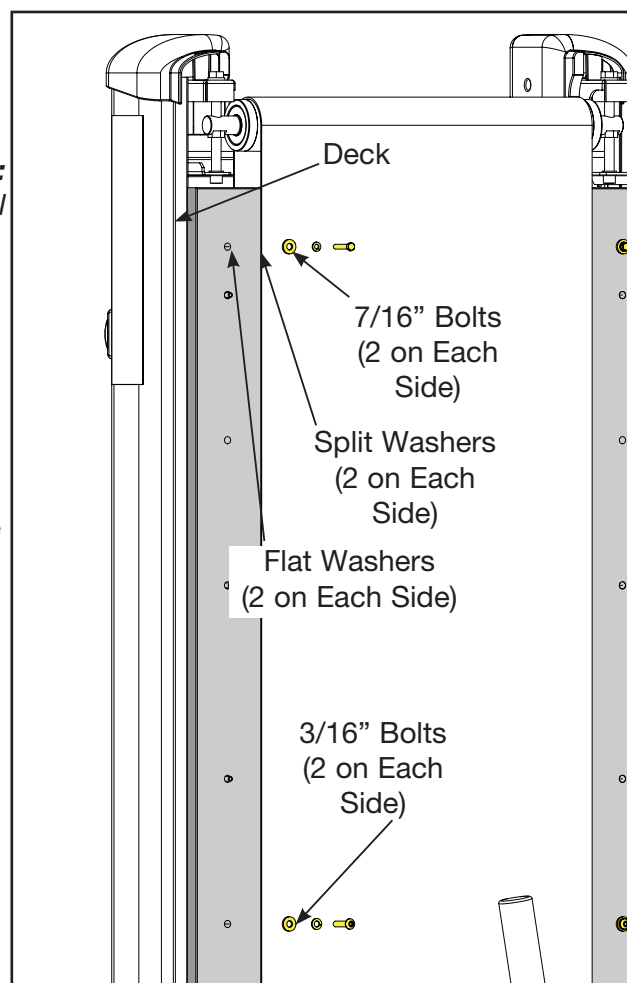

Figure 9
- A.** Using a 7/16" socket wrench, remove the two screws, two split washers and two flat washers that hold the back of the deck in place. See Figure 9.
- B.** Using a 3/16" allen wrench, remove the two screws, two split washers and two flat washers that hold the front of the deck in place. See Figure 9.
- B. Using a 7/16" socket wrench, install the two screws, two split washers and two flat washers that hold the back of the deck in place. See Figure 9.
- C. Using a 3/16" allen wrench, install the two screws, two split washers and two flat washers that hold the front of the deck in place. See Figure 9.